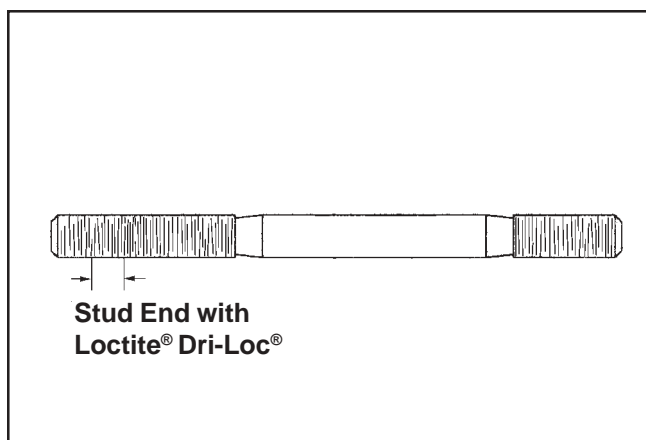

Figure 11-21. New Cylinder Stud.
1. Identify the longer threaded end of the new stud containing the Loctite® Dri-Loc®. See Figure 11-21.